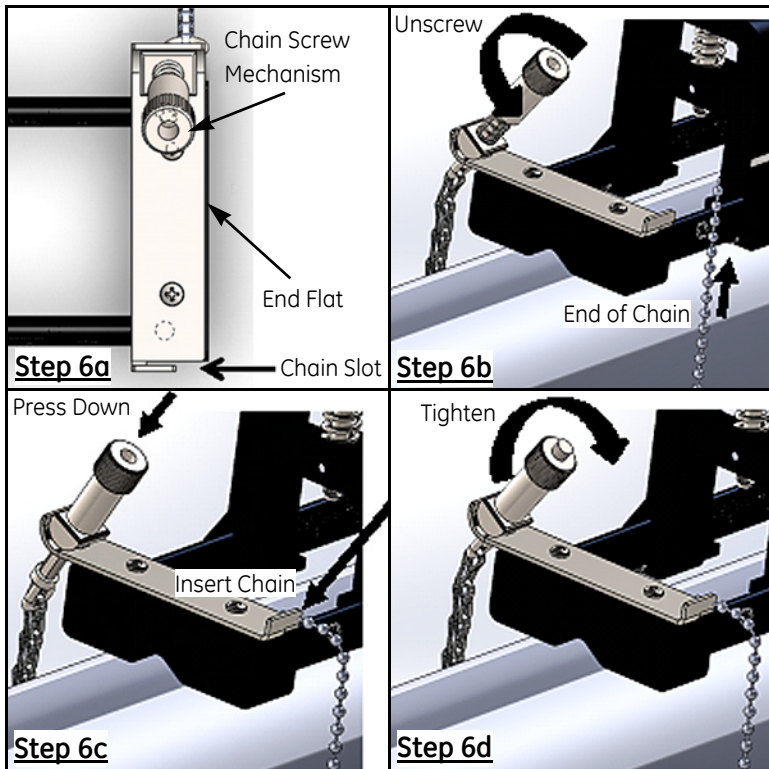

Figure 13: Installing a Chain
6. To install a chain around the pipe, refer to *Figure 13* on page 13 and complete the following steps: